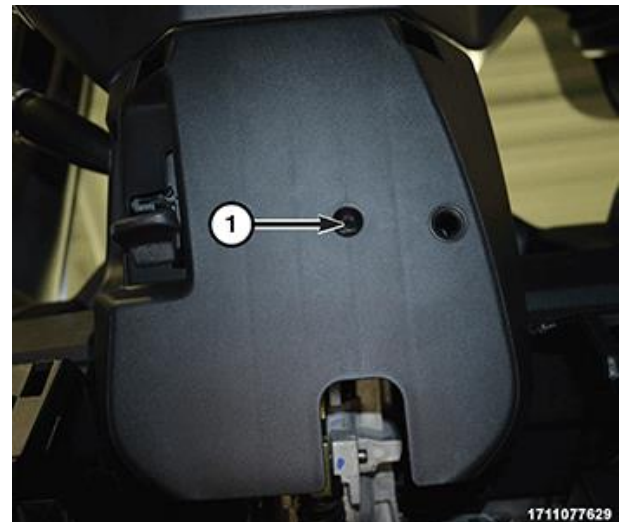

Figure 11 – Steering Column Lower Shroud
23. Remove the lower shroud to column retaining screw (1) and carefully move the lower shroud over the steering column tilt lever and off the steering column (Figure 11).
6. Install the lower shroud, shroud to column retaining screw (1) and tighten securely (Figure 11).